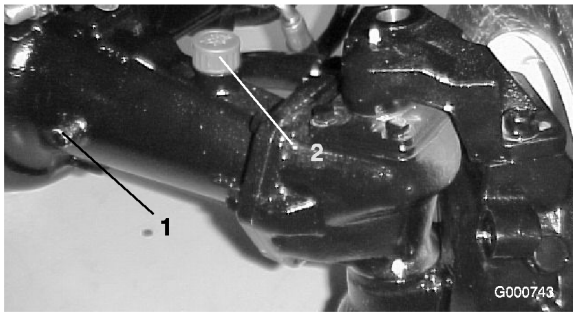

Figure 56
2. Remove a check plug (Figure 56) from one end of axle and make sure lubricant is up to bottom of hole. If level is low, remove the fill plug (Figure 56) and add enough lubricant to bring the level up to the bottom of the check plug holes.